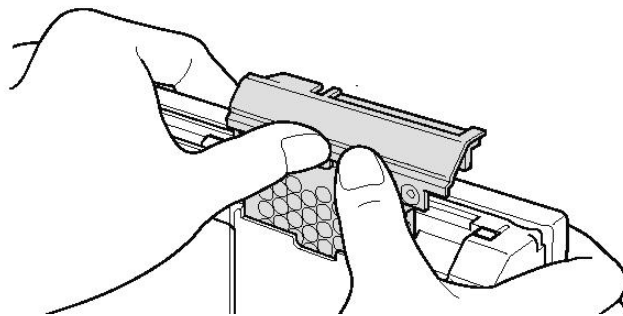

Figure 12-18.- A31p Hard Drive removal.
7. Refer to figure 12-18 for removing A31p Hard Drive